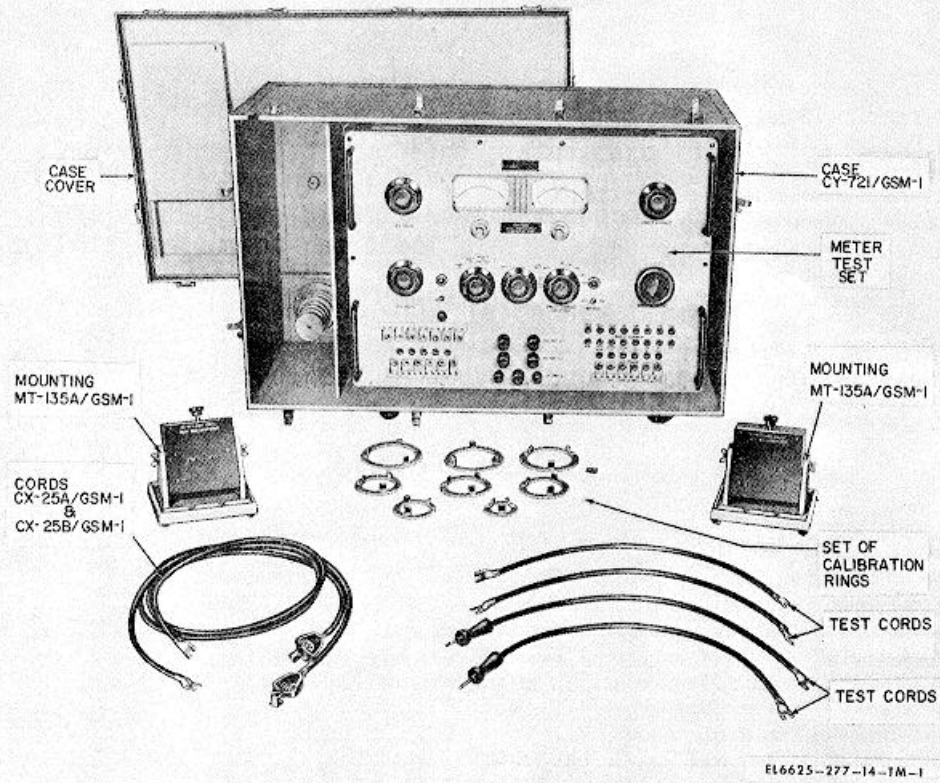

Figure 1-1. Meter Test Set TS-682/GSM-1
a. This manual describes Meter Test Sets TS682/GSM-1 and TS-682A/GSM-1 (fig. 1-1 and 1-2), and provides instructions for operating, cleaning, troubleshooting, testing, aligning, and repairing the equipment. It also lists tools, materials, and test equipment required for organizational and general support maintenance. No direct support maintenance is authorized for the equipment.